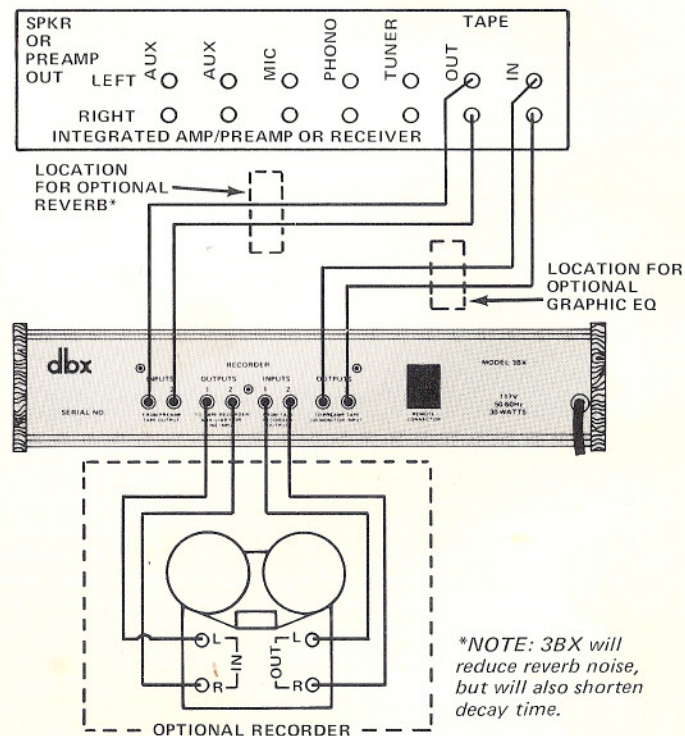

Fig. 8 — How to Connect the 3BX if Your Receiver, Preamplifier or Integrated Amplifier/Preamplifier has a Tape Monitor Loop
2. If you do not have a tape recorder connected as shown in Figures 8 and 9, leave the SOURCE, and the PRE buttons depressed all the time.